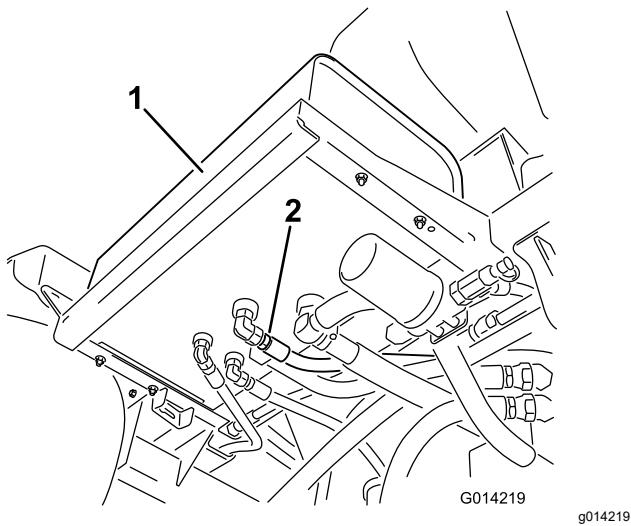

Figure 101
2. Clean the area around a hydraulic-hose fitting on the bottom of the hydraulic-fluid tank (Figure 101).
4. Remove the hose fitting from the tank, allowing the fluid to drain into the pan (Figure 101).